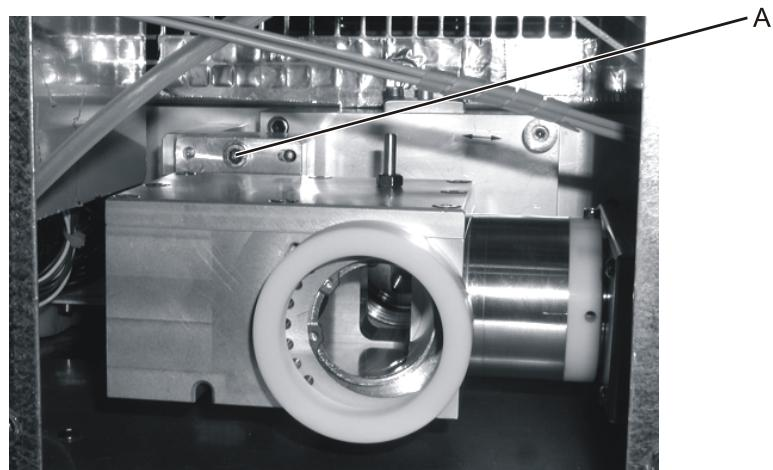

Figure 16: Unscrewing the energy monitor
15. Use the 4 mm allen key to remove the screw that secures the energy monitor (see Figure 16, A) and carefully pull the energy monitor away from the locating pins.